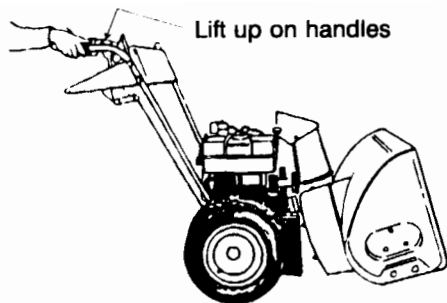

FIGURE 27
- Separate the housing from the frame assembly by standing in the operating position and lifting up on the handles. The frame and housing will separate, and the rear auger drive belt will come off the pulleys. See Figure 27.